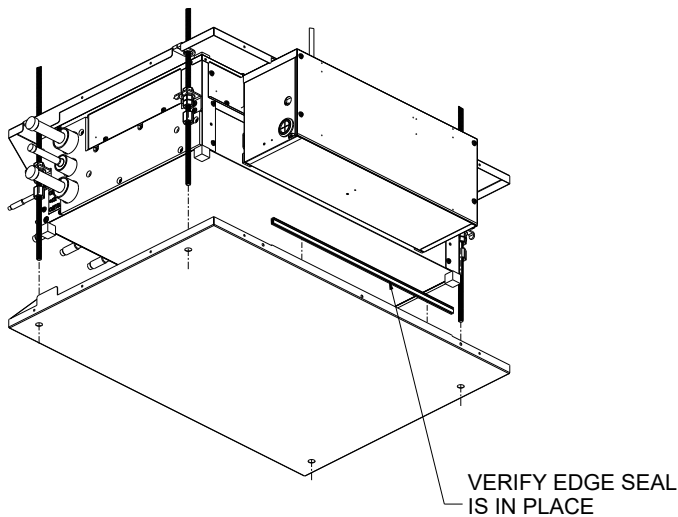

FIGURE F.3
- 1.5** Install the bottom panel (Item 2) by aligning the 4 cut outs in the bottom panel with the ends of the 4 thread rods and bringing the panel into contact with the rubber cubes installed to the bottom of the Valve Box (Refer to Figure F.3)